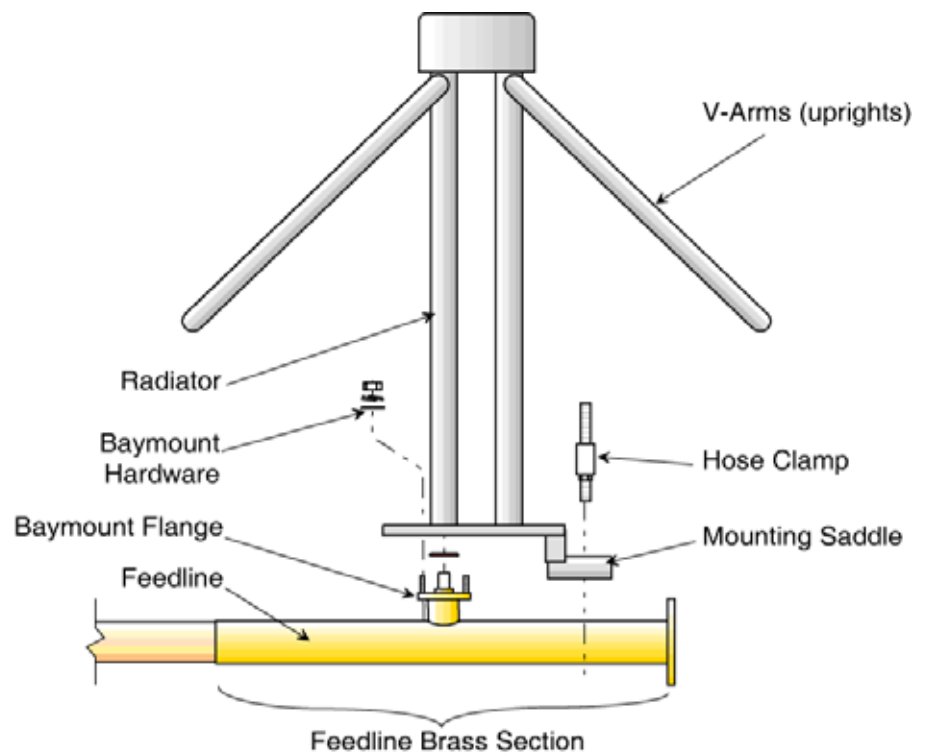

Figure 2. Radiator Installation, exploded view
- h. Observing the orientation of the bay's "UP" sticker, carefully place the radiator over the flange studs (see Figure 2), and slip it over the inner conductor connector.